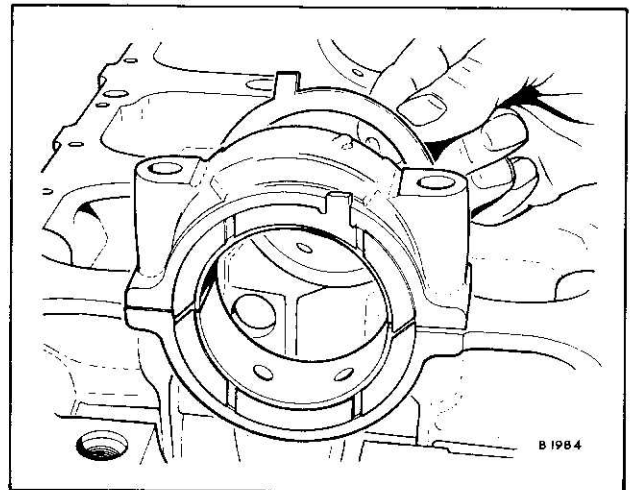

Fig. 3
3. Upper and lower thrust washers in centre main bearing, Fig. 3.